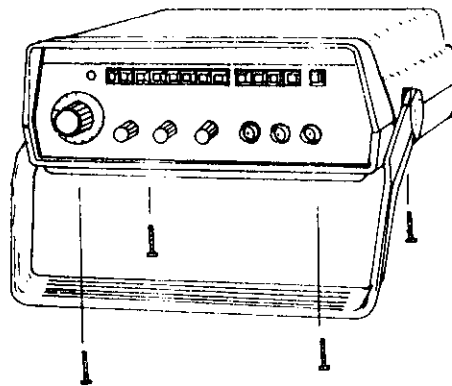

Fig. 5-1 Retaining screw Removal and top cover removal
- (a) Remove the four retaining screws located on the bottom cover which secure the bottom cover, figure 5-1.